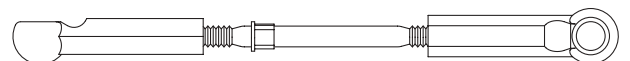

Figure 45B
- ❑ 1. Thread a plastic rod end (4) onto each end of a 1.625" turnbuckle (139). Tighten both rod ends (4) equally until the rod is the same length as the rod in Figure 45B. Make two of these tie rod assemblies.